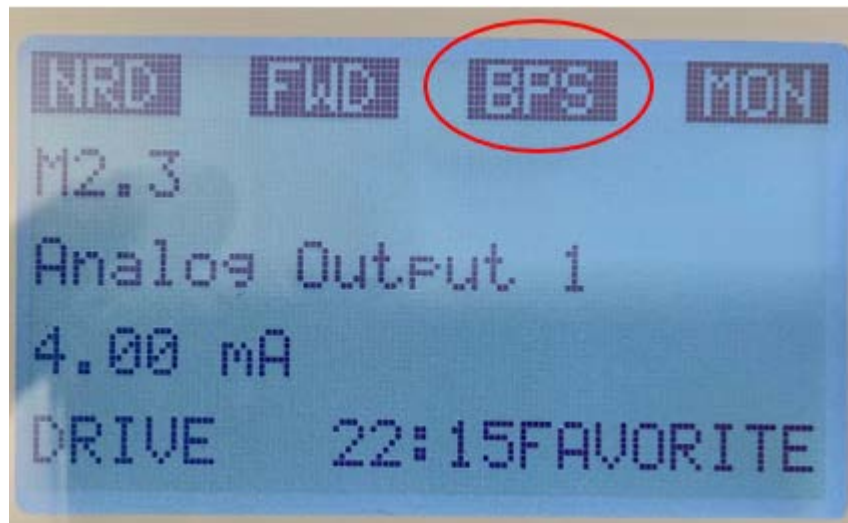

Figure: 1 Showing Drive in Bypass mode
- c. The step b above will put the drive in Bypass mode (see Figure 1).
- b. The step a above will put the drive in Bypass mode (See Figure 1).